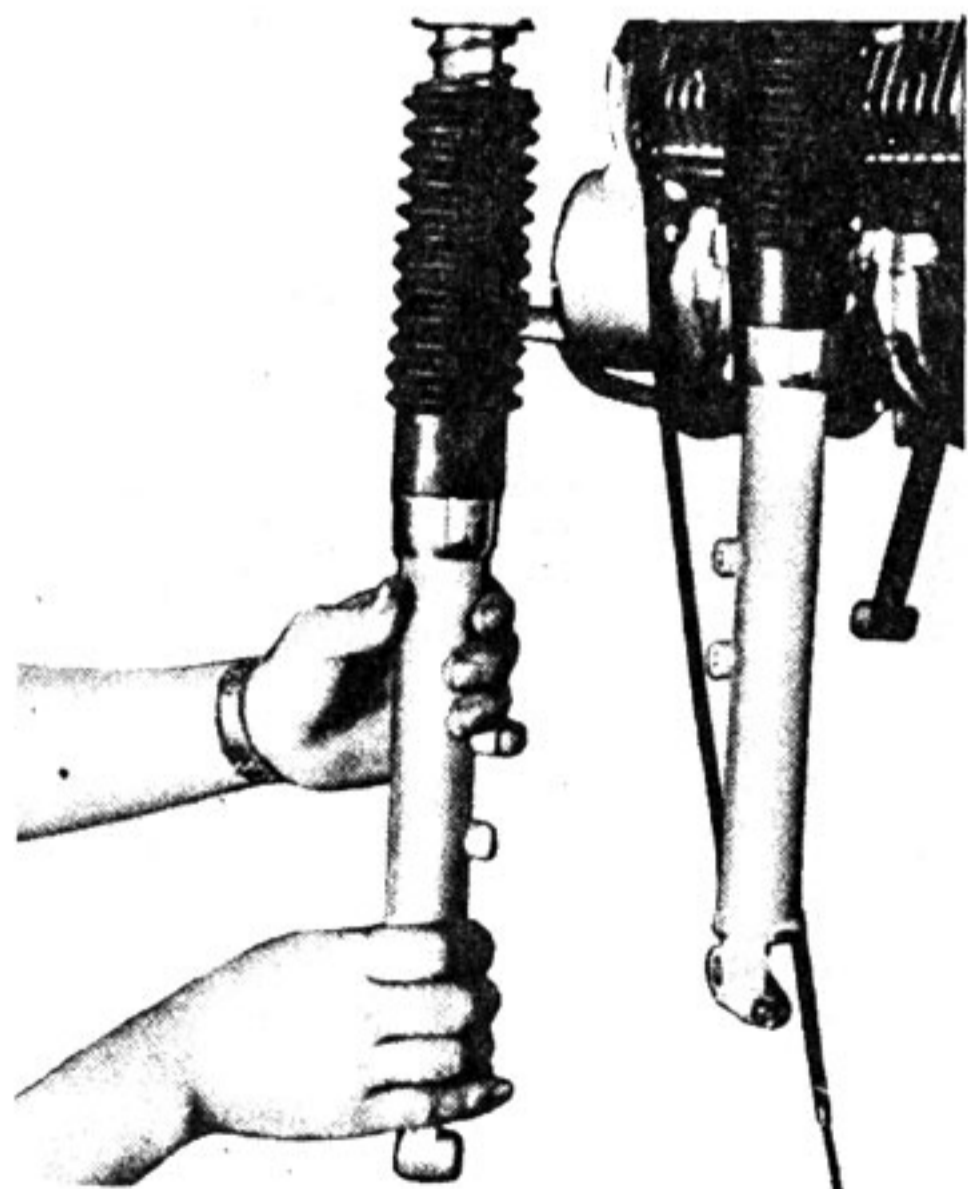

Fig. 5-7-2
- (3) Draw the outer tube downward to remove the assembly. (Fig. 5-7-2)